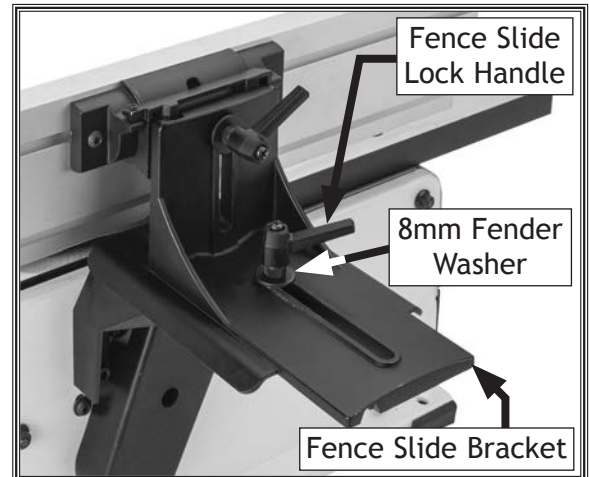

Figure 13. Fence slide lock handle and flat washer inserted in center of brackets.
- Place fence slide bracket on fence support bracket and insert fence slide lock handle and 8mm fender washer through center of brackets (see Figure 13).